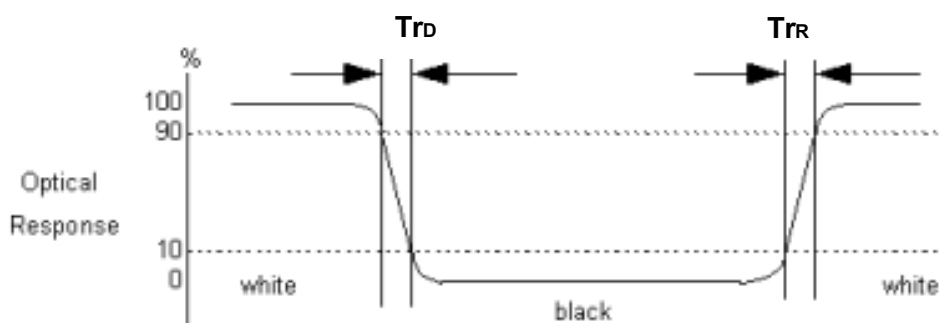

Fig.4-3 Response time
4. Response time is the time required for the display to transition from white(L_{255}) to black(L_0) (Decay Time, $T_{rD} = T_f$) and from black(L_0) to white(L_{255}) (Rise Time, $T_{rR} = T_r$). For additional information see FIG4-3.